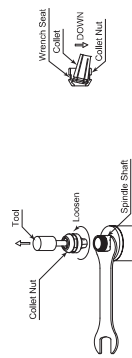

Fig. 7
- Remove the tool according to the section "7. CHANGING THE TOOL", procedure above and remove collet nut assembly (Fig. 7).